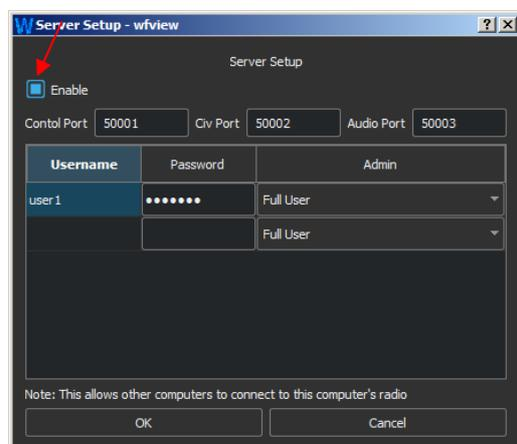

**Figure 5: Settings server PC**
Download the software "wfview.exe" for Windows (x86) from <https://wfview.org/download>, install it on the **server PC** and start it. I use the software **Windows (x86) release v1.2d**. Go to **Settings (Figure 5)** and enter the following data (red bordered field):
- To run the software on the client PC, the server PC (see Fig. 5) must be started first!